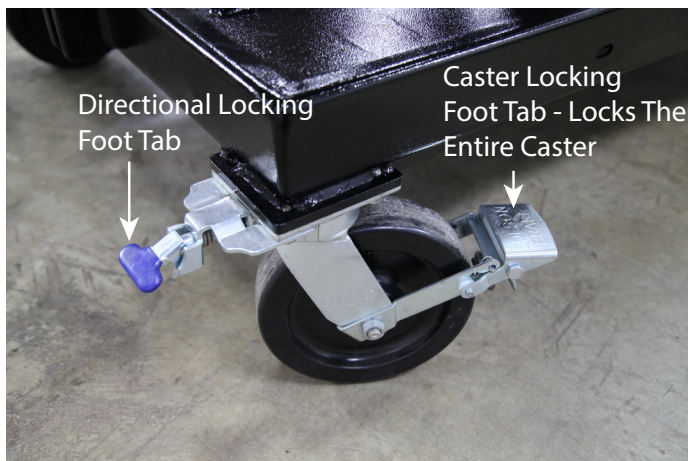

Fig. 5
6.) Attach 1/4NPT male 90° swivel fitting to rear of pump. Attach 3/8NPT male to 37° JIC female adapter fitting to front of power unit (under foot pedal). Attach 37° JIC male to 3/8NPT male 90° fitting to adapter fitting just installed. Attach lift table, pre -installed and coiled in table, to 90° fitting just installed. **IMPORTANT:** always use pipe tape/dope on all pipe fittings. Fig. 5.
- 6.) When moving the lift table, with or without a load, the casters may be locked directionally by pressing the blue foot tab downward on the caster. For ease of forward/aft movement only lock one front caster rotationally. Additionally, the lift table may be locked into position by pressing the caster locking foot tab downward. Fig. 5